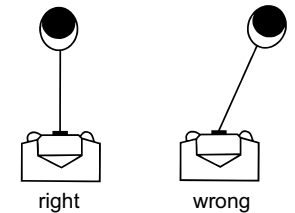

Figure 2
5. Avoid continuous pulls from extreme angles because this will cause the wire rope to pile up on one end of the drum (see Figure 2) and damage the wire rope.